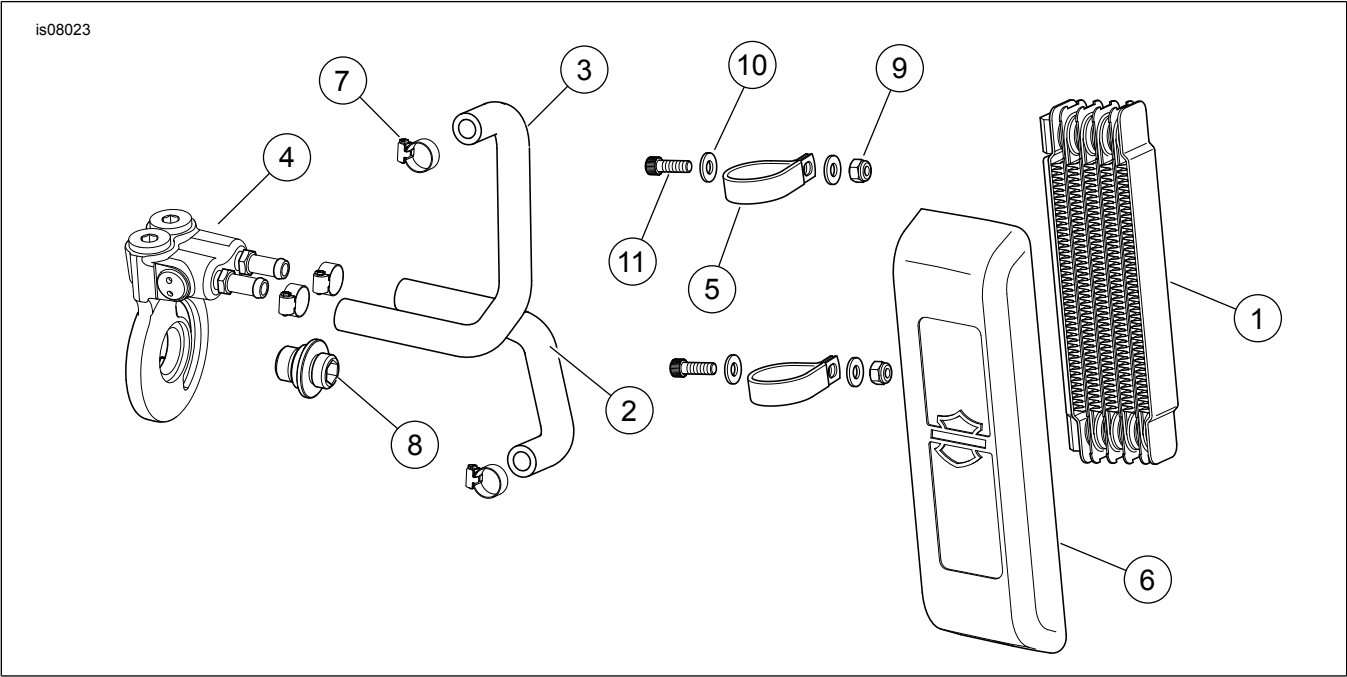

Figure 5. Service Parts: Softail Oil Cooler
See Figure 5 and Table 1.
5. See Figure 5. Install upper hose (3) to barb of oil cooler and tighten with hose clamp (7) to 0.9 N·m (8 in-lbs).
6. Install lower hose (2) to lower barb of oil cooler and tighten with hose clamp (7) to 0.9 N·m (8 in-lbs)